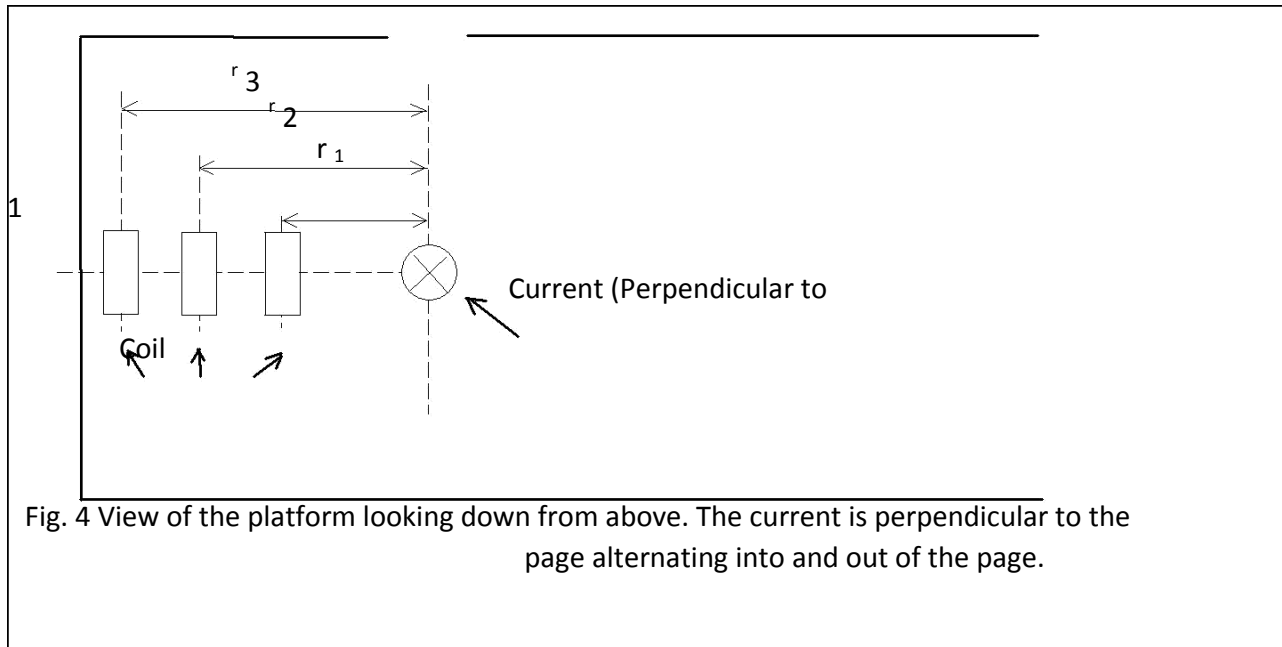

Fig. 4 View of the platform looking down from above. The current is perpendicular to the page alternating into and out of the page.
2. Connect the inductor coil to the oscilloscope. Place the inductor coil on the platform as shown in Fig. 4. Line up the coil with the ruler attached to the platform.